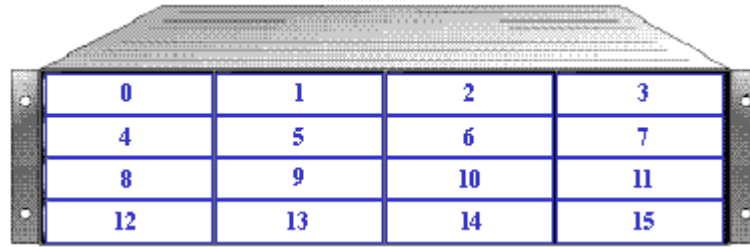

Figure 2-2. Drive Slot Numbering
- Sixteen (16) drive slots. See Figure 2-2